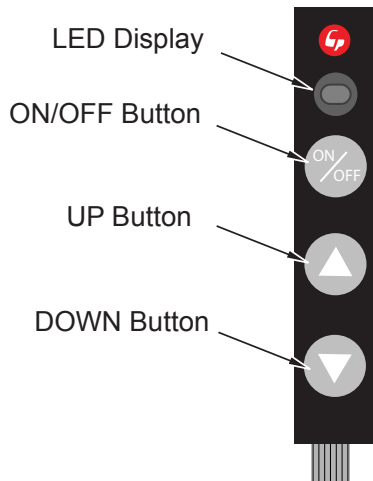

Figure 34 - Touch Pad Control
This touch control has only 3 buttons for controlling manually the flame of the appliance (see **Figure 34**).
1. To increase the flame level, press the up button (▲). A beep and a flash of the LED indicate that the system has accepted the order, and the flame will increase instantly (see **Figure 34**).
2. To decrease the flame level, press the down button (▼). A beep and a flash of the LED indicate that the system has accepted the order, and the flame will decrease instantly (see **Figure 34**).